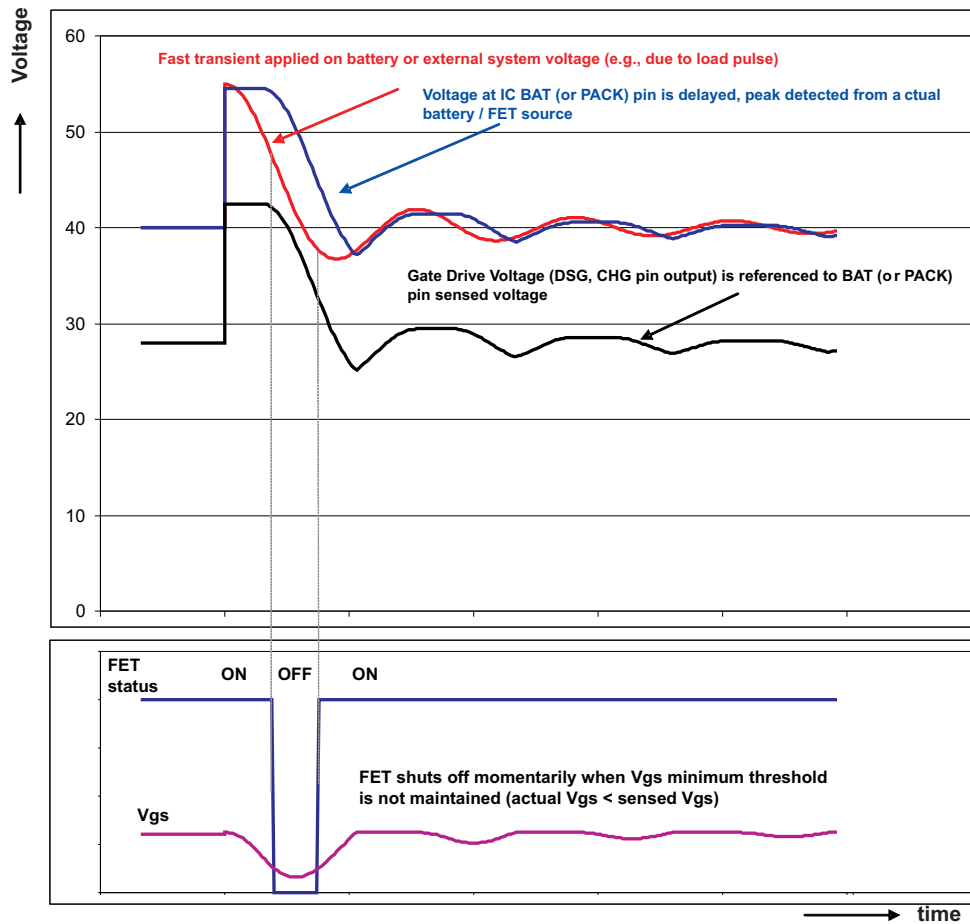

Figure 1. Transient Effect of FET Operation
- The circuit used for maintaining the supply voltage to the IC may need to be modified in a system that has significant voltage transients to prevent momentary shutoff of the power FETS during these conditions. See Figure 1 for further explanation.